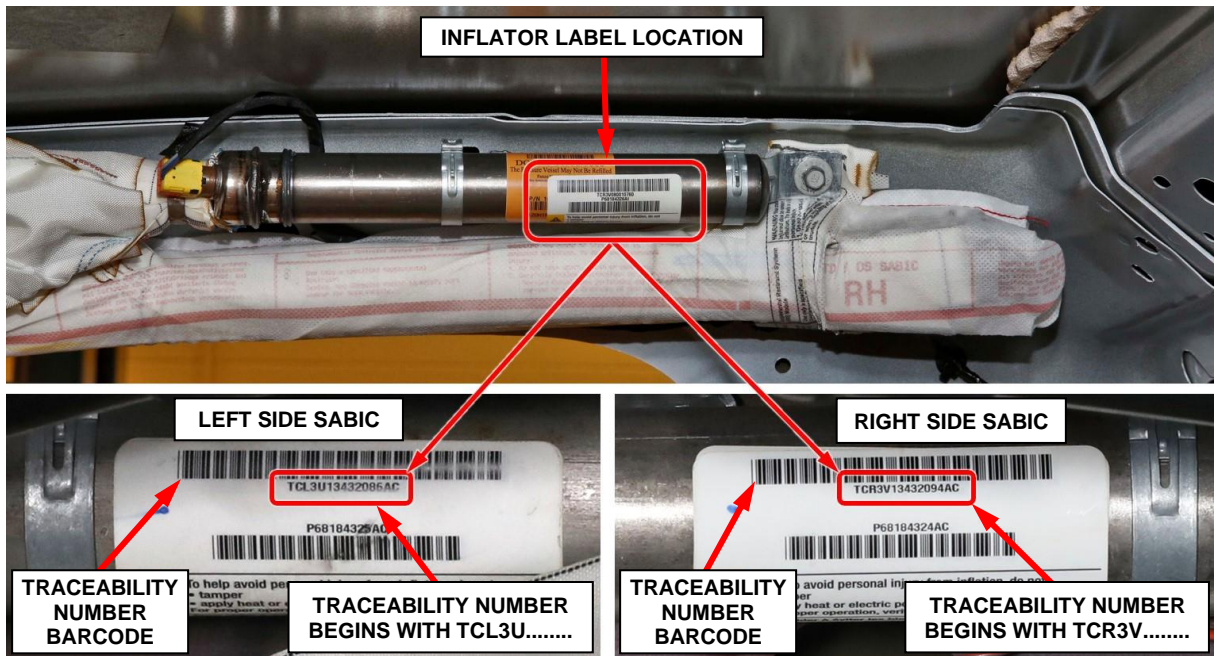

Figure 60 – SABIC Inflator Traceability Number Inspection
- 25. Locate the label on SABIC inflators. The traceability number will begin with TCL3Uxxxxxxxx for the left side or TCR3Vxxxxxxxx for the right side as shown in (Figure 60).